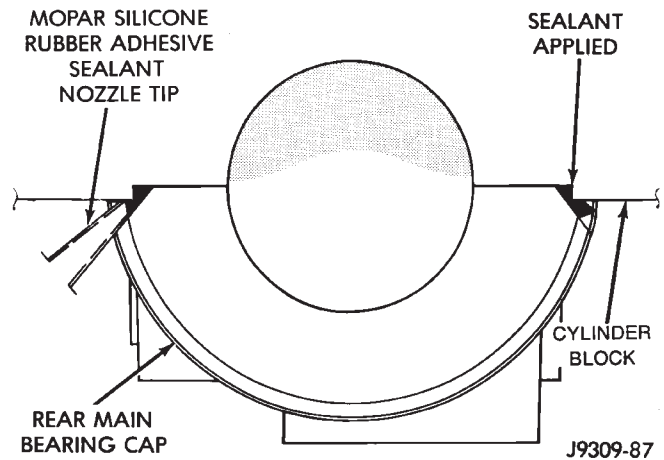

Fig. 46 Apply Sealant to Bearing Cap to Block Joint OIL PUMP
- (8) To align the bearing cap, use cap slot, alignment dowel and cap bolts. DO NOT remove excess material after assembly. DO NOT strike rear cap more than 2 times for proper engagement.
- (9) Clean and oil all cap bolts. Install all main bearing caps. Install all cap bolts and alternately tighten to 115 N·m (85 ft. lbs.) torque.
- (10) Install oil pump.
- (11) Install the timing chain cover.
- (12) Install the vibration damper.
- (13) Apply Mopar® Silicone Rubber Adhesive Sealant, or equivalent, at bearing cap to block joint to provide cap to block and oil pan sealing (Fig. 46). Apply enough sealant until a small amount is squeezed out. Withdraw nozzle and wipe excess sealant off the oil pan seal groove.
- (14) Install new front crankshaft oil seal.
- (15) Immediately install the oil pan.